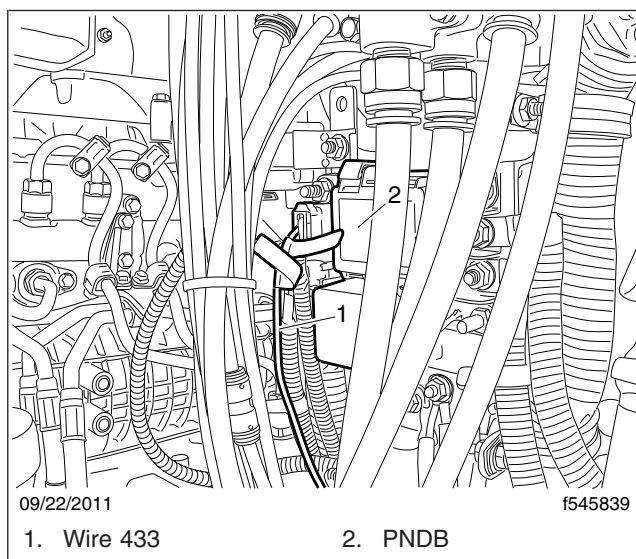

Fig. 3, Circuit 433 Installation
- 2.11 Place 1/4-inch diameter conduit on the engine side circuit 433 wire and insert the other end from the A06-81697-000 harness in PNDB cavity 3, which is powered by fuse C. See Fig. 3.